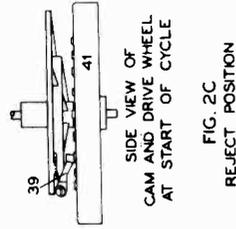
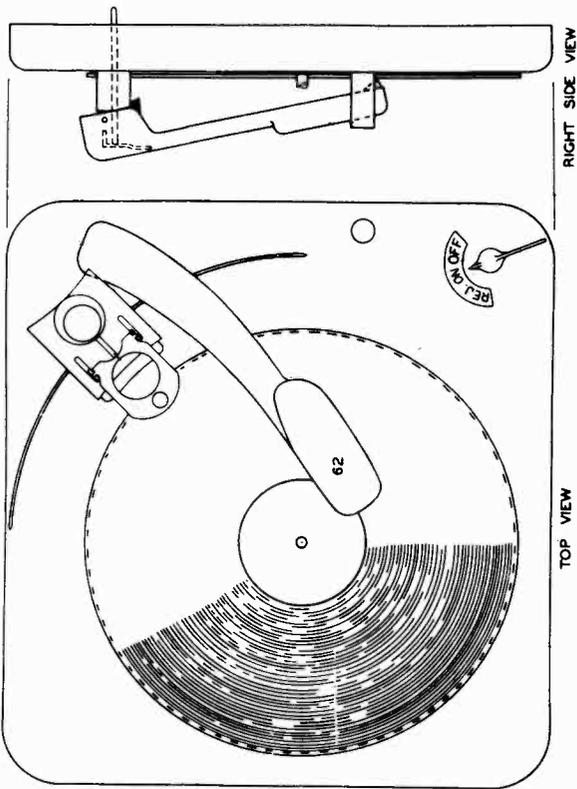
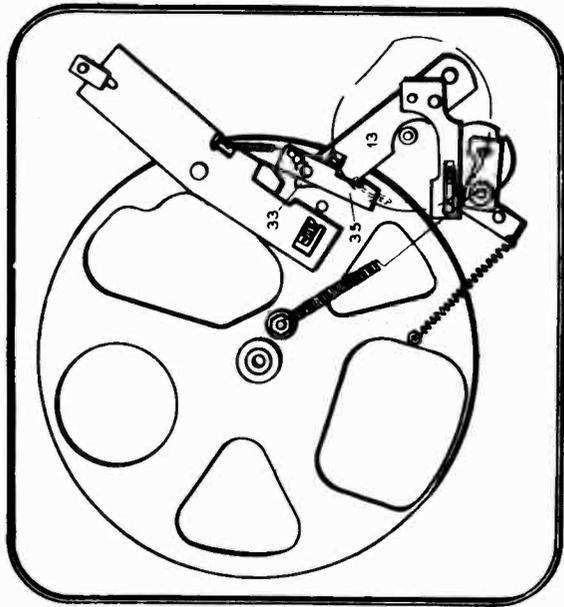

FIG. 2C
FIG. 5A
FIG. 5
OFF switch (22 Fig. 2) to the ON position. And at the same time point A of the reject arm (25 Fig. 2) pushes against the release arm (35 Fig. 2) releases its hold on the cam pawl (39 Fig. 2C) allowing it to drop down and engage the raised portions of the drive wheel (41 Fig. 2C). The drive wheel is driven by the drive belt (42) and drive pulley (46 Fig. A).
Fig. 5 shows how the pickup trip arm (13) has followed the pickup arm (62 Fig. 5A) as it moved across the record. The pickup arm is at the end of the record and the serrated end of the pickup trip arm has moved against the release arm tension bracket (33 Fig. 5). (Also see 33 on exploded view). The backward and forward movement caused by the grooves at the end of the record forces the release arm tension bracket (33 Fig. 5) to pivot, and the pivot point applies pressure to the release arm (35 Fig. 5) forcing it away from the cam pawl (39 Fig. 2C) allowing the cam pawl to drop and engage the main drive wheel (41 Fig. 2C), thereby starting another change cycle.